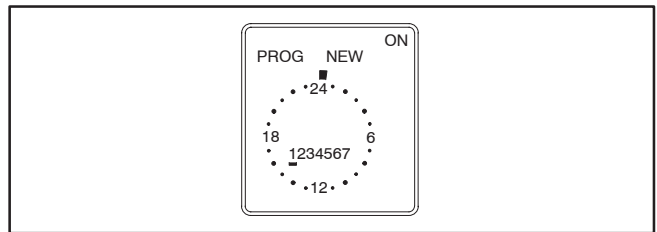

FIGURE 9. SETTING THE DAY OF THE WEEK THE EXERCISE IS TO BEGIN
- 2.. The selector button (⬆) will be pointing at **PROG NEW**. Press the **OK** button again. “ON” is displayed in the top right corner of the screen and the first day of the week is underlined (see Figure 9).